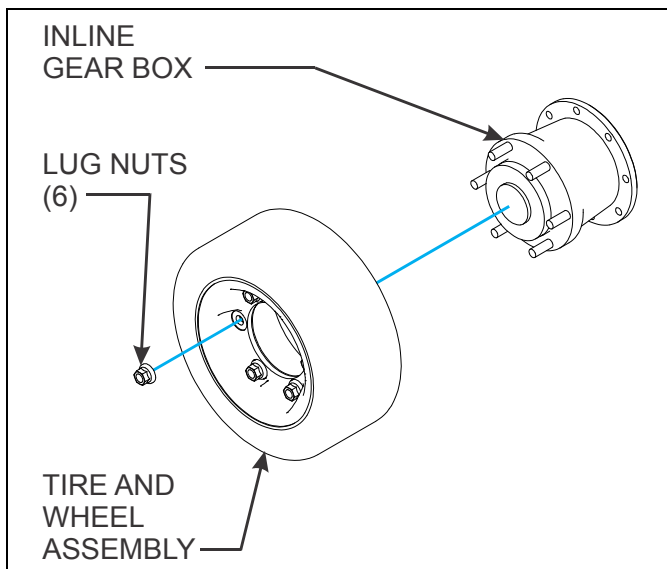

Figure 3-19: Removing Load Wheel
5. Remove the six lug nuts (See Figure 3-19 on page 3-40).
5. Remove the load wheel assembly on the side being serviced (See Figure 3-19).